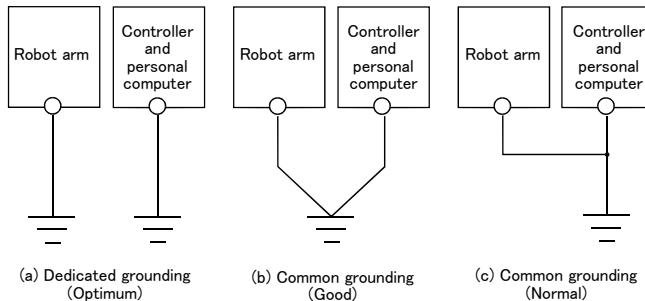

Fig.2-6 : Grounding methods
1) There are three grounding methods as shown in Fig. 2-6, but the dedicated grounding (Fig. 2-6 (a)) should be used for the robot arm and controller when possible. (Refer to the separate "Controller Setup, Basic Operation and Maintenance" for details on the controller grounding.)